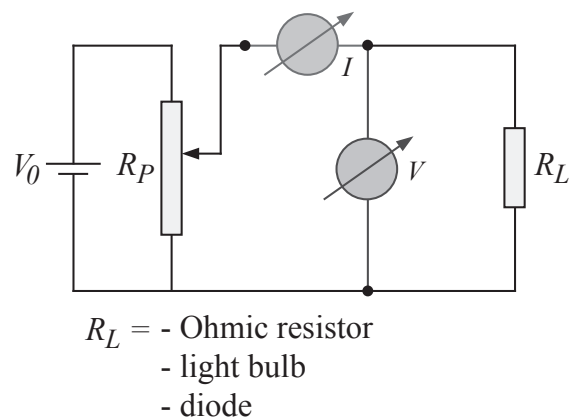

Figure 4.10: Electric circuit used for the measurement of the characteristic.
- The characteristics are recorded using the circuit given in Fig. 4.10. The voltage can be set by means of the potentiometer  $R_p$  in the range 0 V...  $V_0$ .  $R_p$  is part of the voltage source.